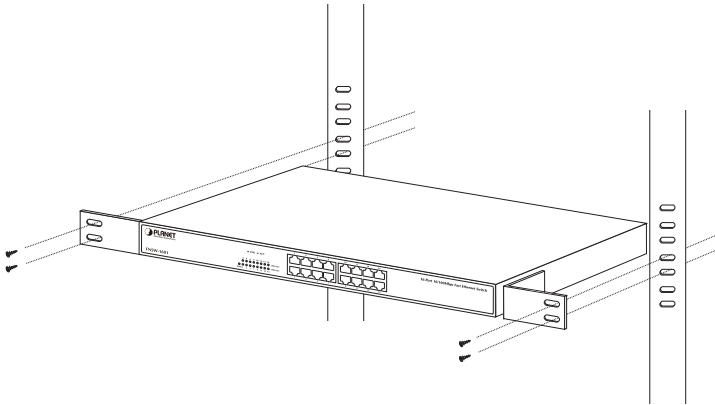

Figure 2-5 Mounting the Fast Ethernet Switch in a Rack
Step 5: After the brackets are attached to the Fast Ethernet Switch, use suitable screws to securely attach the brackets to the rack, as shown in Figure 2-5.